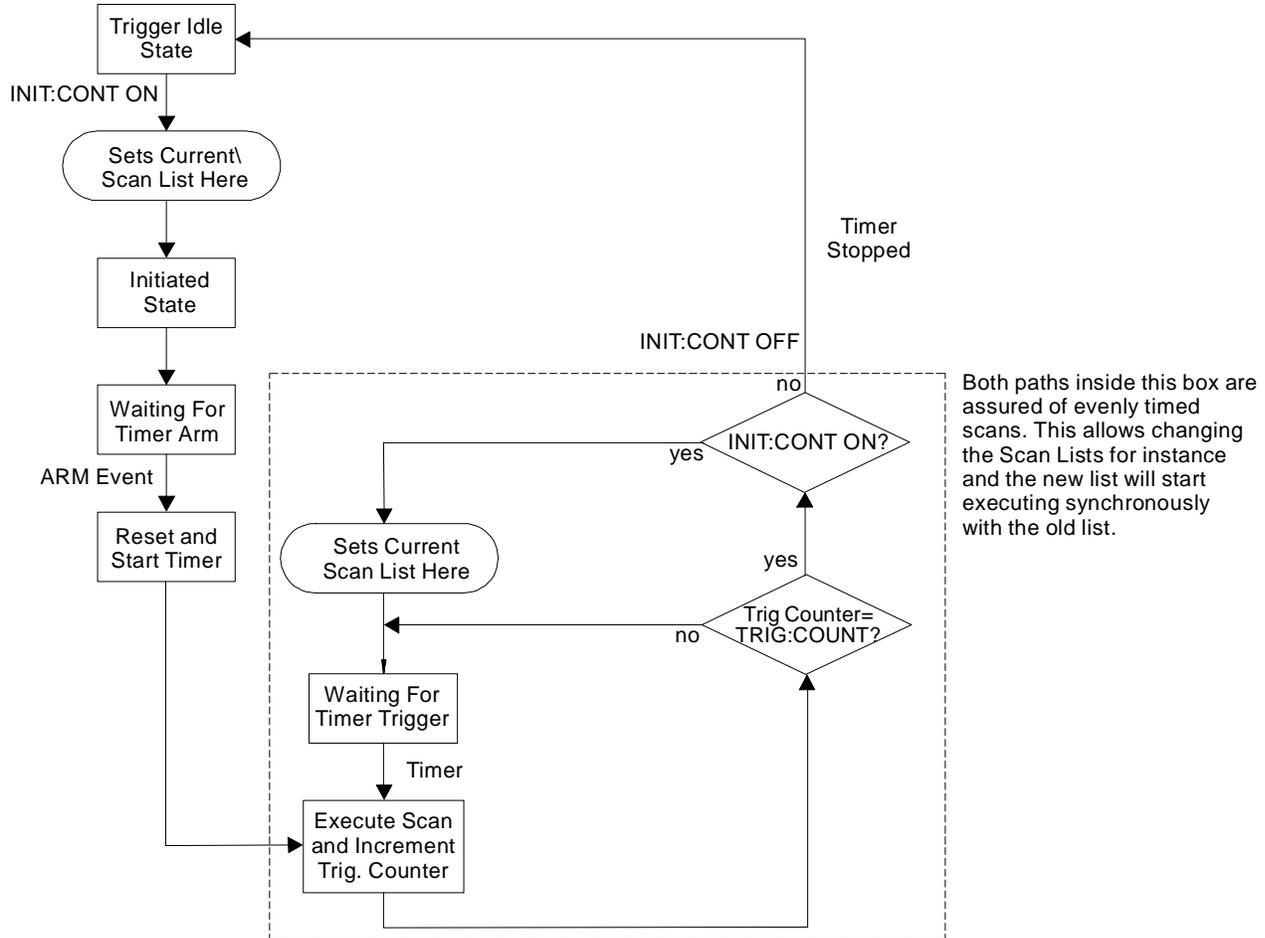

Figure 5-8. Synchronous Mode Sequence
- Use TRIGger:TIMER:MODE SYNC with INITiate:CONTinuous ON when you want to be able to change the Scan List while performing synchronously timed scans. In SYNC mode a Timer Arm event immediately triggers a scan and starts the timer. When the trigger count is reached and INITiate:CONTinuous is ON, the trigger timer continues running, the current Scan List is read, and the module returns to wait for the next Timer trigger. See Figure 5-8 for operation.